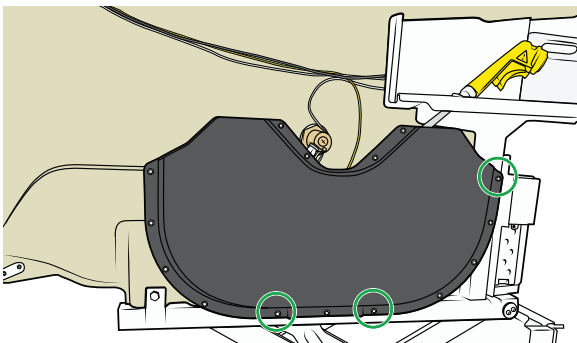

Figure 30
12. Remove the Hose guide (three screws). See Figure 30.